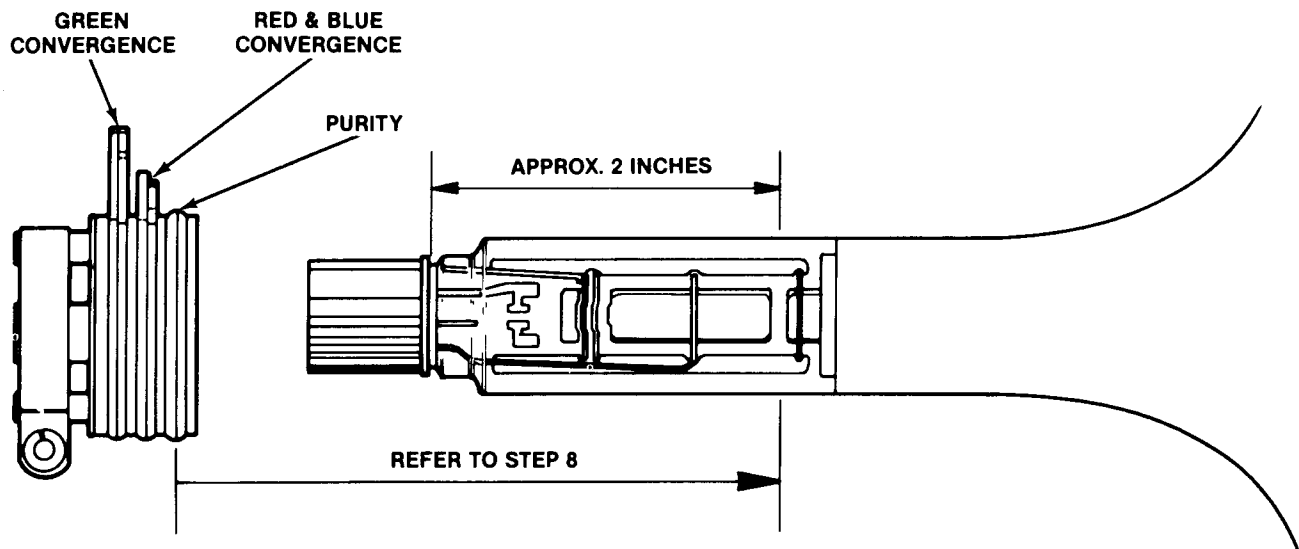

Figure 3 Purity and Convergence Adjustments
8. Position the convergence-magnet assembly so that the purity rings shown in Figure 3 are positioned directly over the gap in the cathode-ray tube gun assembly. This is about two inches forward from the start of the neck glass.
14. Adjust the purity rings of the magnet assembly shown in Figure 3 so that the width of the green band is horizontally equal to the red and blue bands on either side.
- b. Adjust the angle of the tabs of the red and blue convergence magnets to superimpose the red and blue vertical lines in the center of the screen area. This will produce magenta vertical lines at screen center. These magnets are shown in Figure 3.